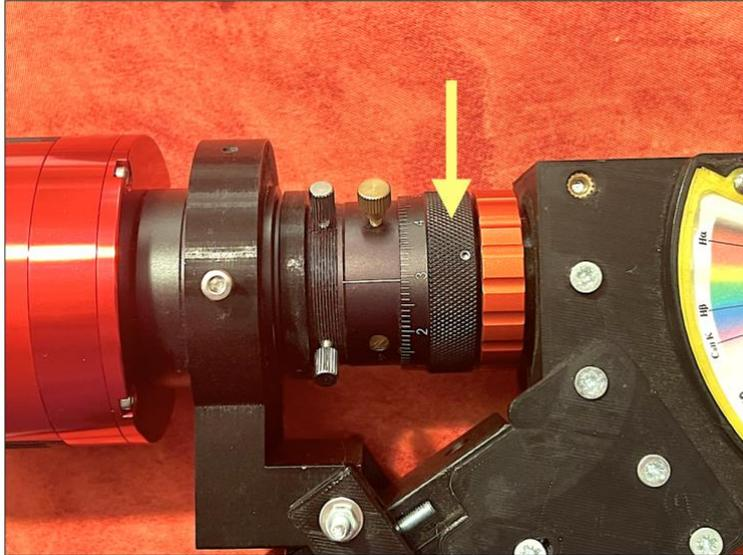

Figure 10. The helical system ring is used to adjust the camera focus.
Step 4: Adjust the camera focus using the helical system (figure 10) to achieve well-defined narrow lines (figure 11). Don't worry about the vertical stick shape; the main